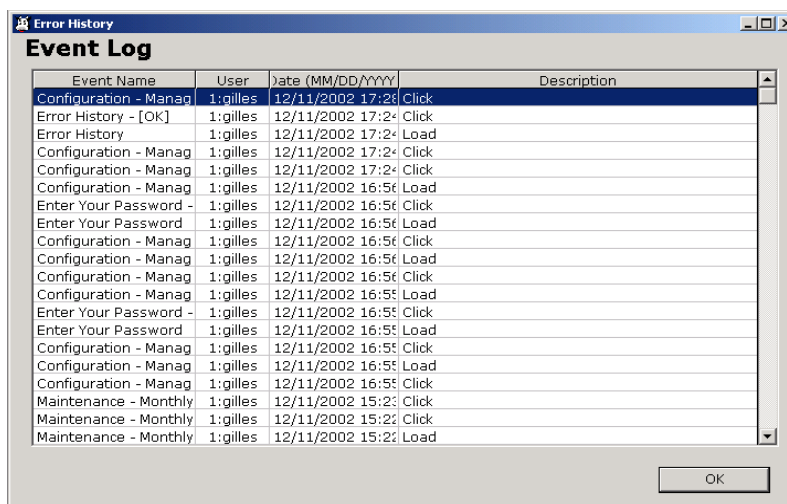

Fig 11.5.2-1 : Event log
- (1) Click “Event” -> “Event log”. The ‘Event log’ screen comes up (Fig. 11.5.2-1).